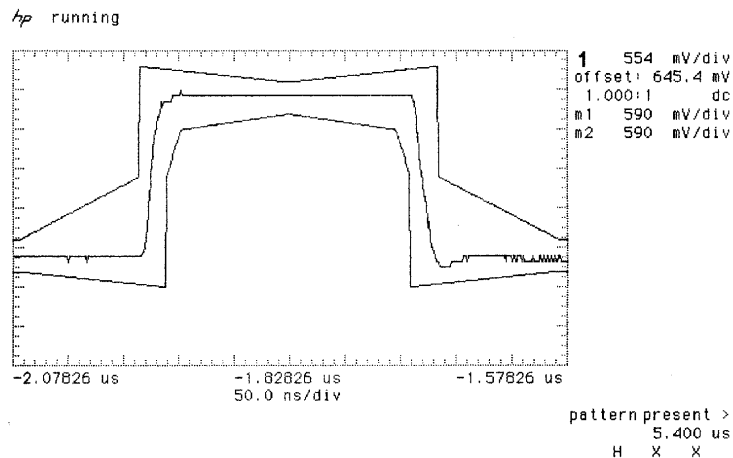

Figure 3-30 2 Mb/s Isolated Positive Pulse
- Press SHIFT **AUTOSCALE** on the oscilloscope to automatically align the pulse to the mask. Verify that the pulse falls within the mask as shown in Figure 3-30.